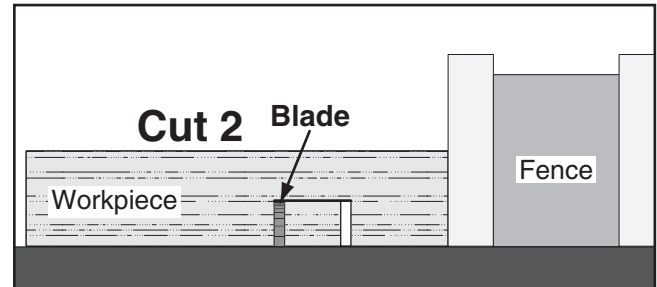

Figure 53. Second cut for a single blade dado.
7. Repeat the cutting operation on the other side of the dado channel, as shown in **Figure 53**.